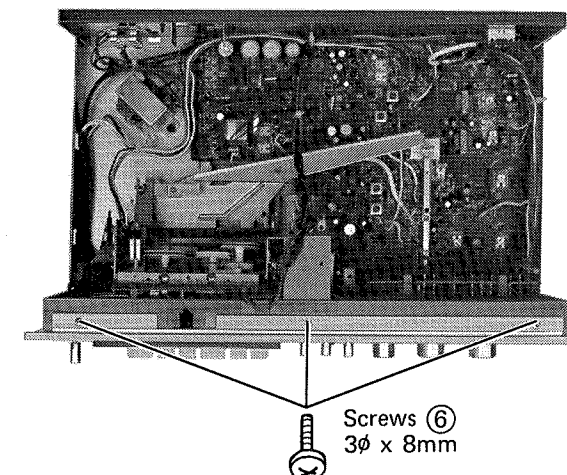

Figure 6.
5. Remove three screws ⑥. See figure 6.